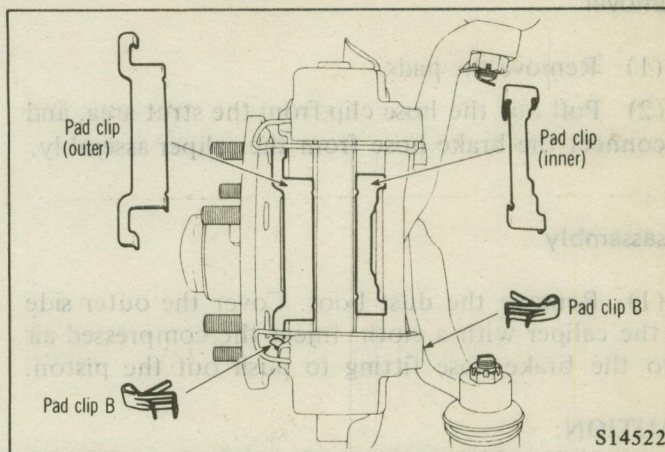

Fig. 24 Installing the Clips
(2) Install the pad clip B and the inner and outer pad clips in proper directions of installation. (Fig. 24)